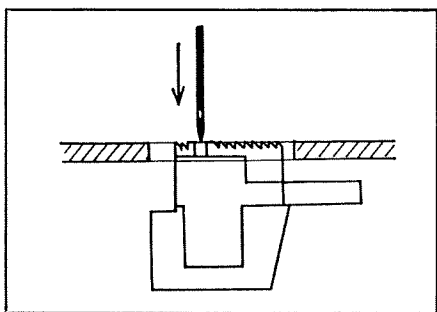
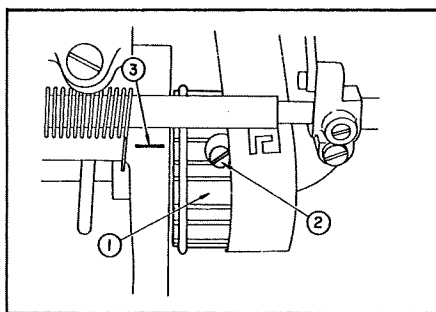

Fig. 30
Fig. 31
Rotate the main shaft in the normal direction until the needle has come down to the same level as the top surface of the throat plate as shown in Fig.30, then, rotate the hook driving shaft in the normal direction until the first screw on the lower sprocket wheel (② of Fig.31) is aligned with the timing mark (③ of Fig.31) and put the timing belt on at this position.